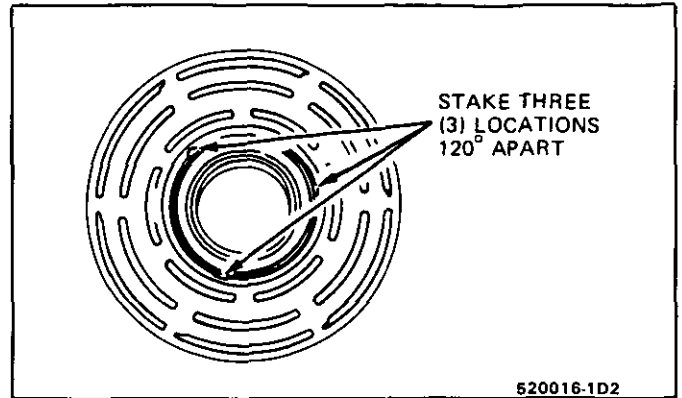

Fig. 16 Bearing Staked In Place
The stake metal should not contact the outer race of the bearing to prevent the possibility of distorting the outer race. Stake three (3) places 120° apart as shown in Fig. 16.